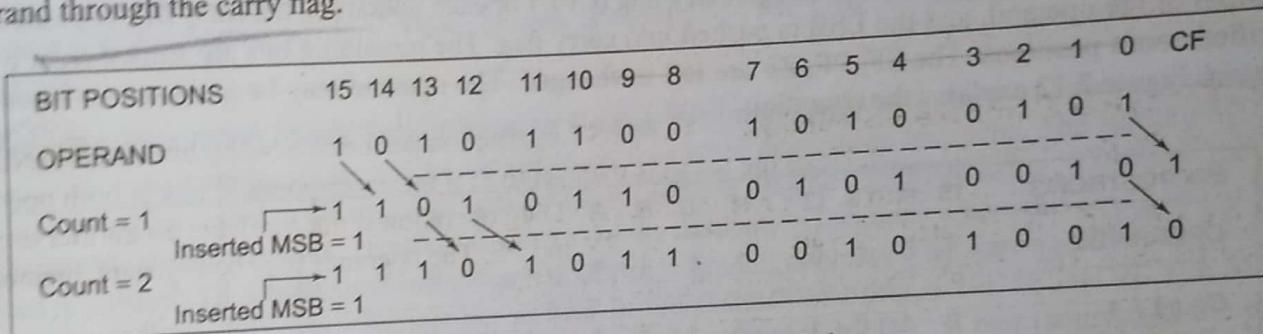

Fig. 2.9 Execution of SAR Instruction
**SAR: Shift Arithmetic Right** This instruction performs right shifts on the operand word or byte, that may be a register or a memory location by the specified count in the instruction. It inserts the most significant bit of the operand in the newly inserted positions. The result is stored in the destination operand. Figure 2.9 explains execution of the instruction. All the condition code flags are affected. This shift operation shifts the operand through the carry flag.